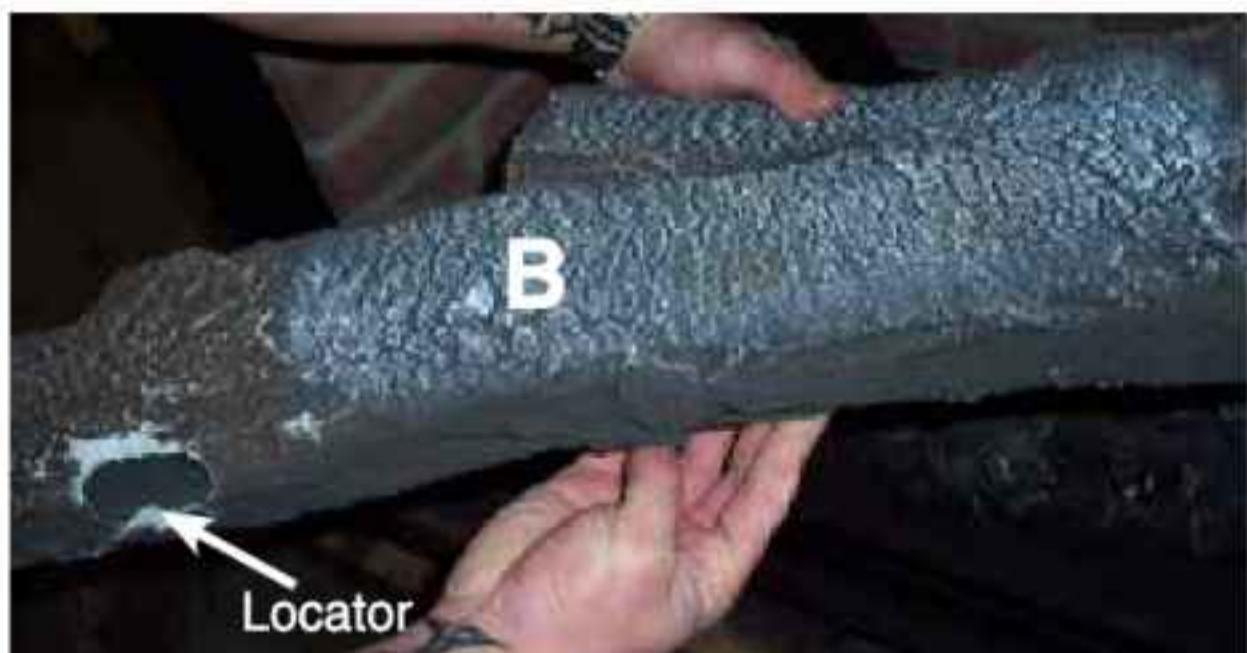

Figure 87: Log B Locator
2) Identify locator on Log B as shown in Figure 87.